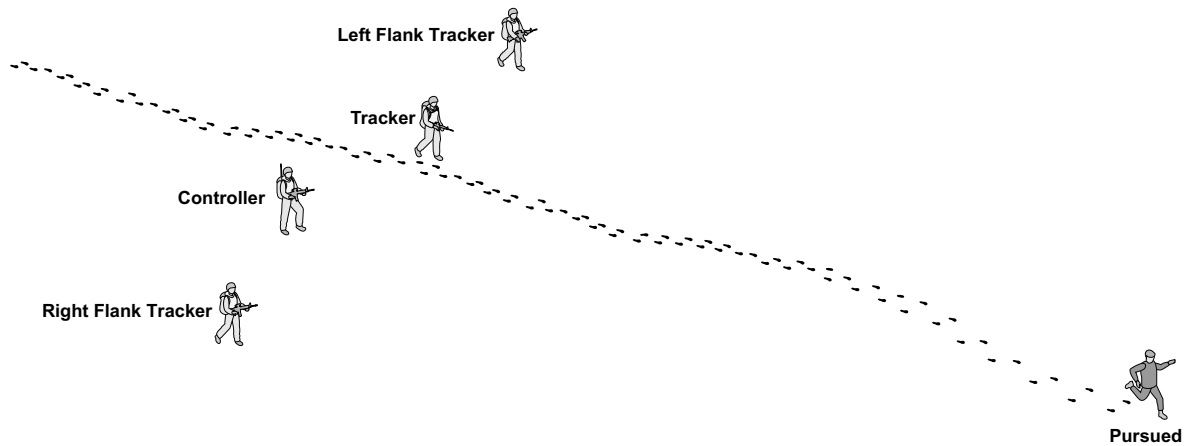

Figure 2-7. Extended Line Formation.
- **Extended-Line Formation.** The extended-line formation (see Figure 2-7) is used when there is little vegetation to restrict visibility, and the spoor is difficult to see. Using three trackers helps Marines quickly track the enemy and maintains the unit's momentum.